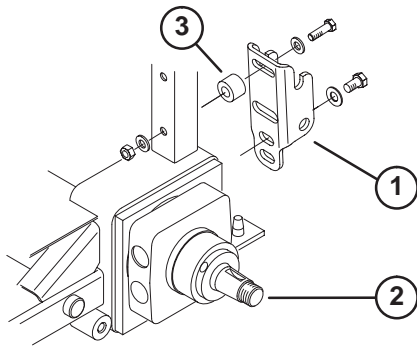

Figure 7
- On Sand Pro 5000/5020 – Mount top of receiver bracket to frame with a 3/8–16 x 1.25” lg. capscrew, (2) .40 I.D. x .81 O.D. flat washers, .625” lg. spacer and locknut. Mount bottom of receiver bracket to frame with a 1/2–13 x .875” lg. capscrew and (2) .56 I.D. x 1.063 O.D. flat washers. Position components as shown in figure 7.